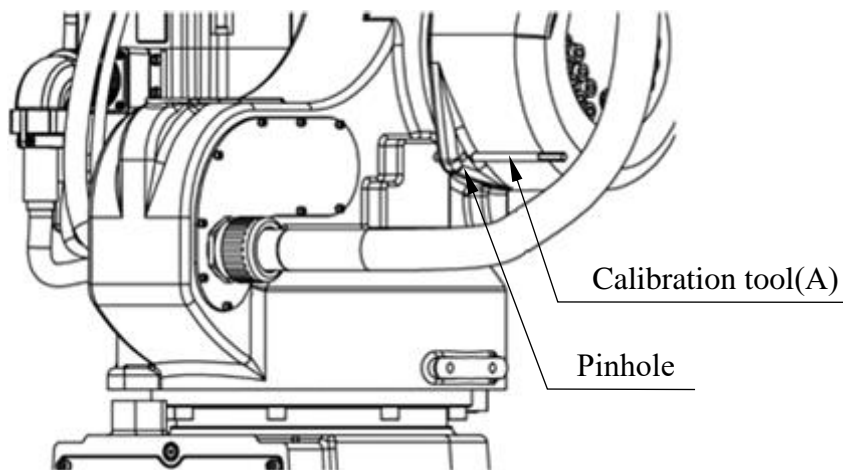

Figure 4-3 Illustration of J2-axis Zero- position setting
- J2-axis Zero-position setting (please refer to the Figure 4-3)
- Step2. Insert the calibration tool(A) to the pinhole to calibrate Zero-position.